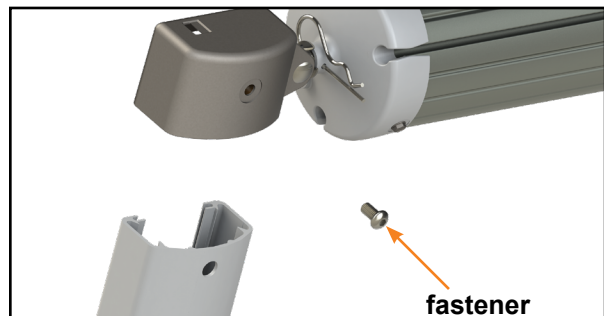

Fig.15
6. Remove the drive head assembly and idler head assembly retaining fasteners from the outer arms to separate the components (Fig. 15).